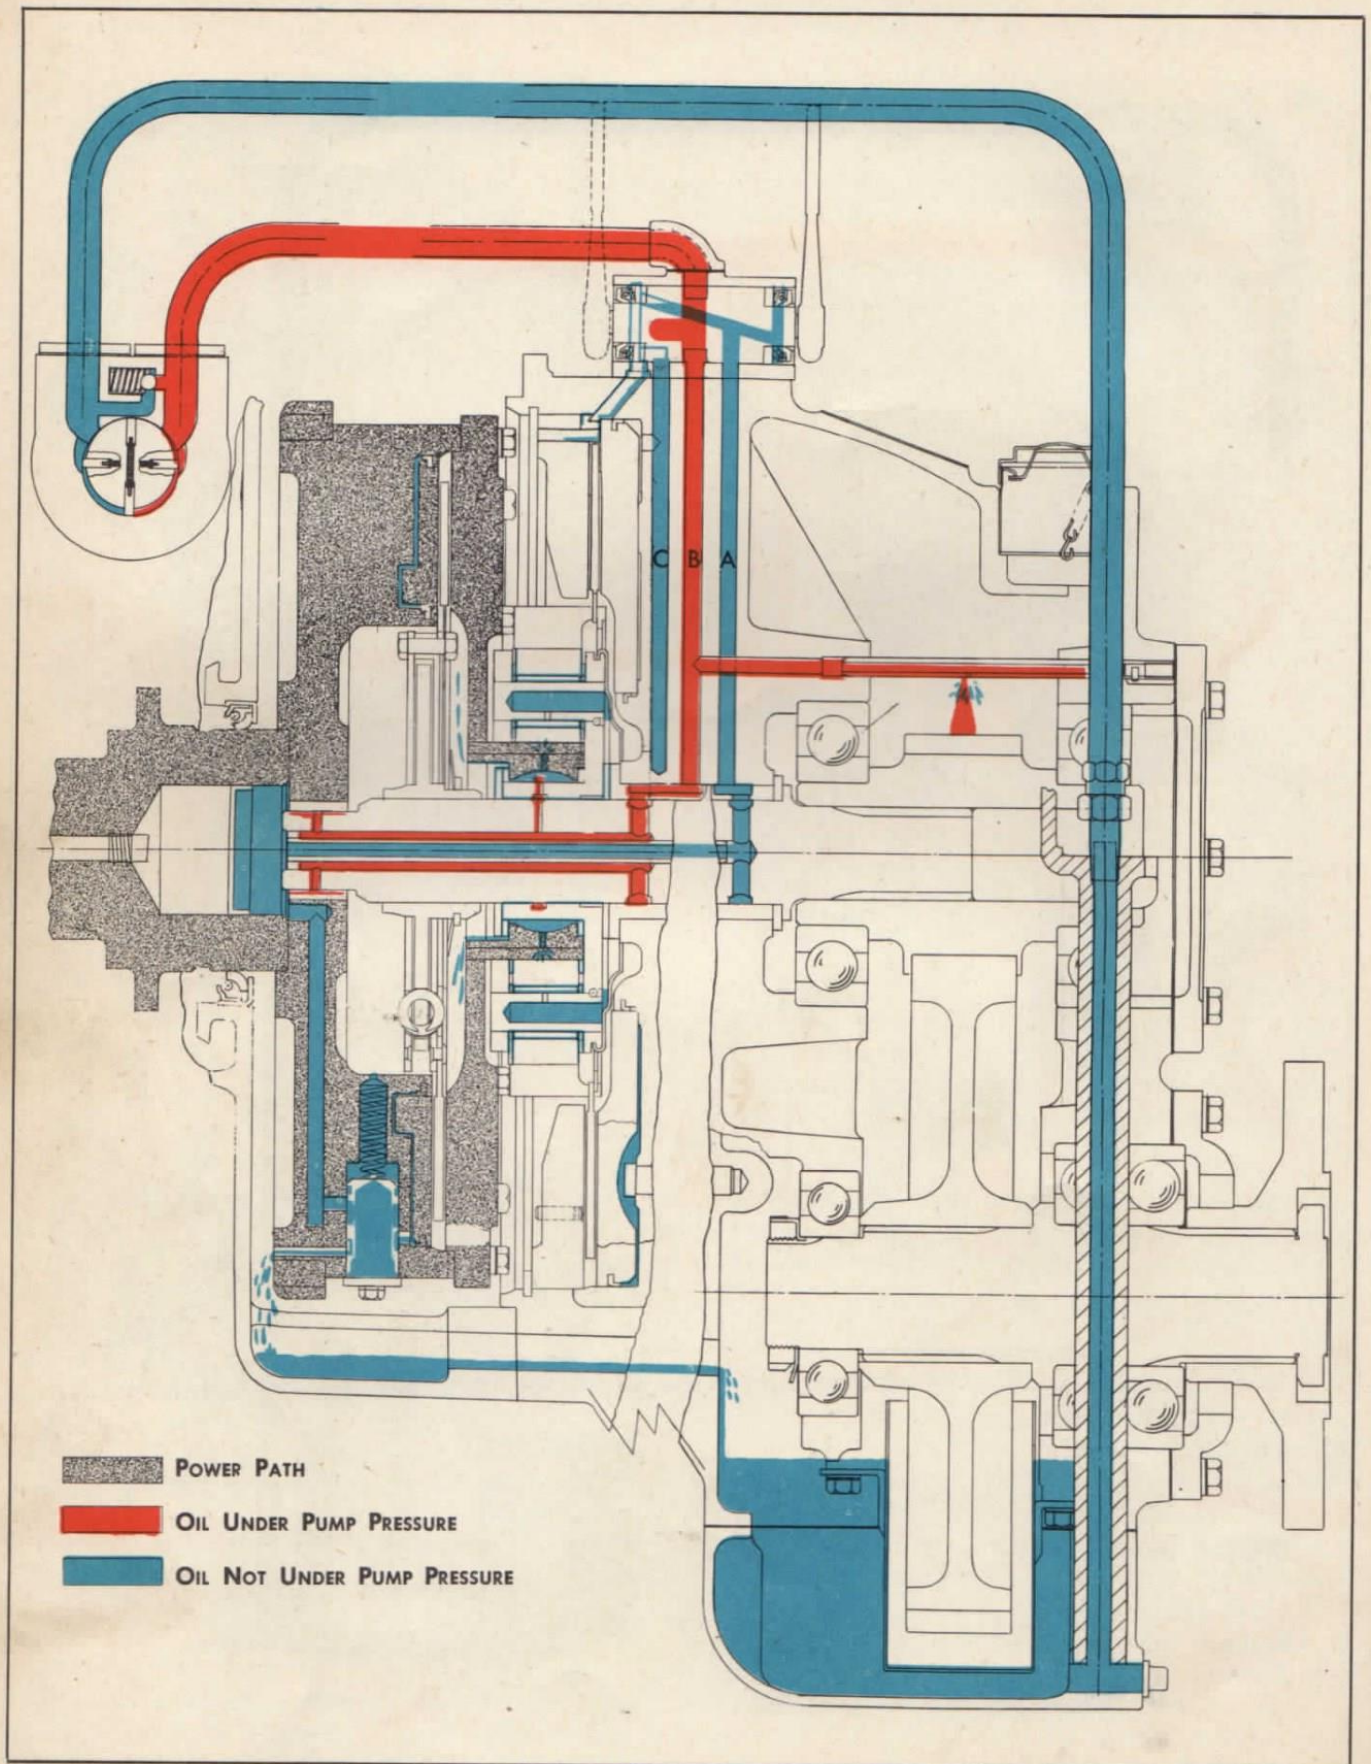

Fig. 14—Oil Flow Diagram for Lubrication of Reverse Gear in Neutral
With the control valve set in neutral position, pump pressure is cut off from both the forward and reverse clutches (pipes "A" and "C"); but, not from pipe "B" as shown in Fig. 14.
When the reverse clutch is applied, the ring gear is held stationary. Then, with the sun gear traveling in a clockwise direction at engine speed, planet gear (49a) revolves counterclockwise, planet gear (49) revolves clockwise walking around inside of the stationary ring gear (32) and turning the planet carrier and drive shaft in a counterclockwise direction and at engine speed, as shown in Fig. 14. The speed of the carrier for this particular design of planet gear set is computed from the formula: